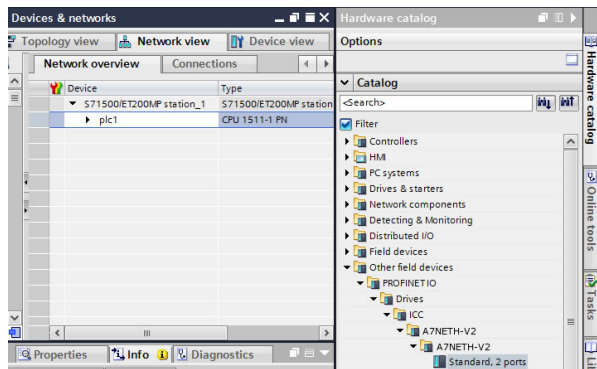

Figure 80: Updated Hardware Catalog
3. This will update the **Hardware catalog**. Locate the device in the **Hardware catalog**. In the **Project tree**, double-click on **Device & networks**. Select the **Network view** tab and locate the device in the **Hardware catalog** as shown in Figure 80.